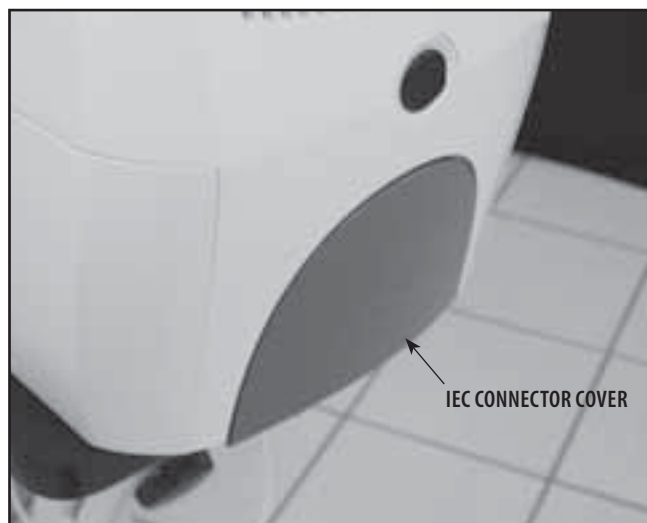

FIGURE 6.7
1. Remove IEC Connector Cover. See Figure 6.7.